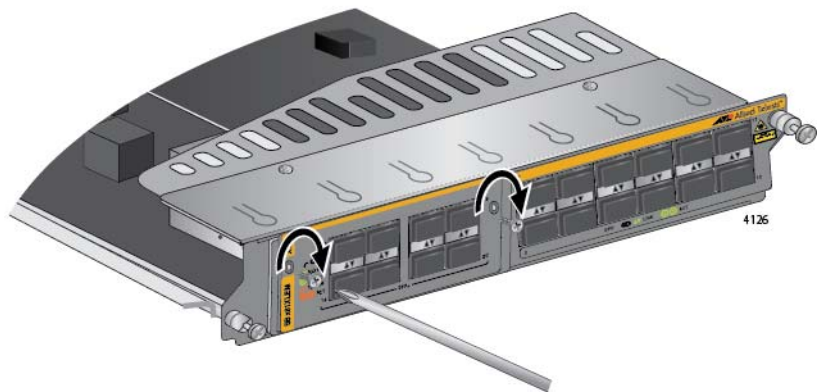

Figure 88. Securing the Expansion Module
10. With a Phillips-head screwdriver, install the two screws from step 4 to secure the expansion module in the line card. Refer to Figure 88.